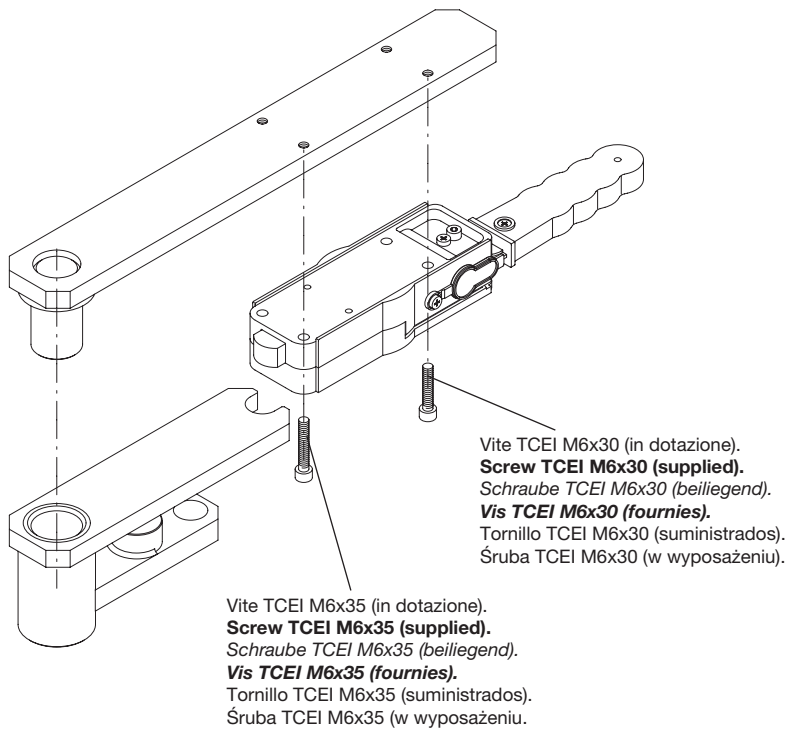

Fig.4
- 3 Pre-assemble the manual release to the gate supporting iron bar, as shown in Fig. 4.